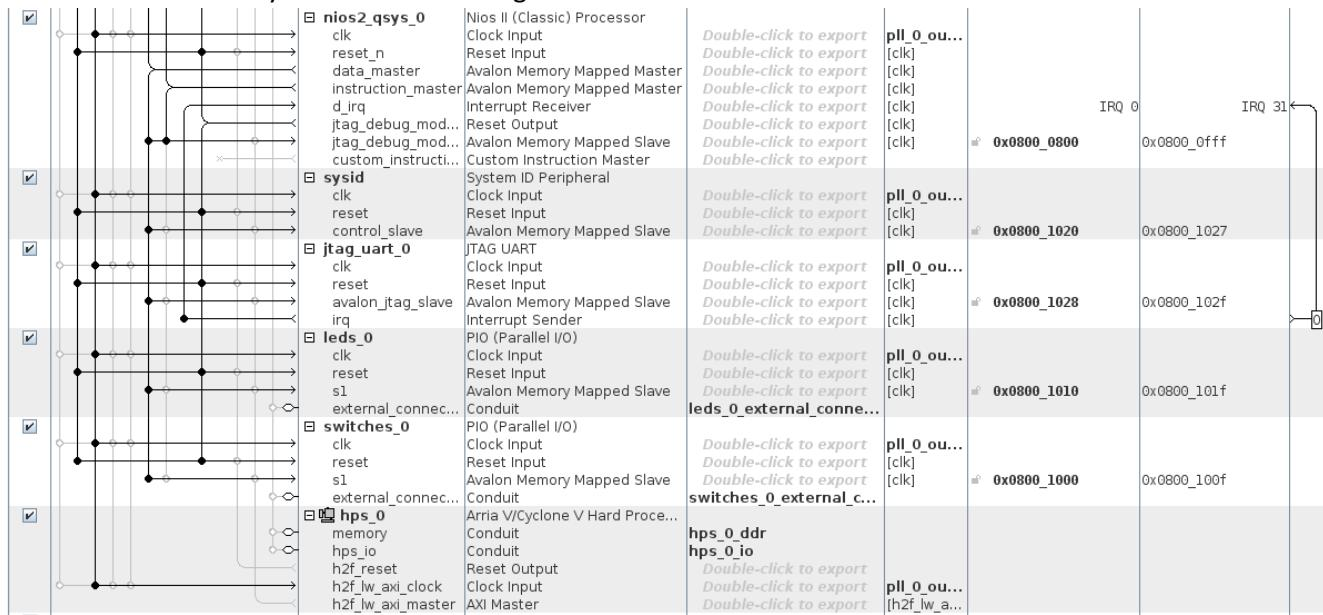

Figure 9-13. Adding the "Standalone" HPS to the System
**26. Connect the system as shown in Figure 9-13 below:**